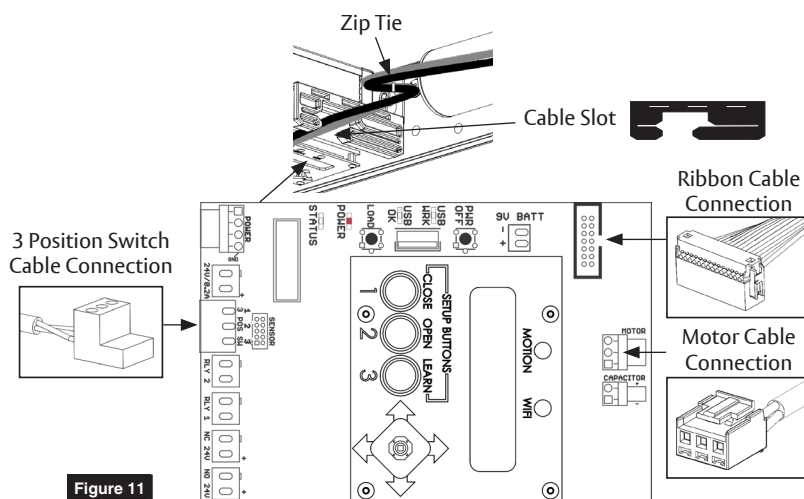

Figure 11
4. Plug motor and ribbon cables from closer body into power supply. (Figure 11)
- Use slot in power supply to feed connectors to board. (Figure 11)
- Use provided zip ties to manage any excess cable between closer and power supply so that cover can be attached without damaging cables. (Figure 11)
5. Connect 3 Position switch on end cap to power supply. (Figure 11)